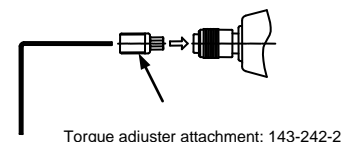

Figure 3
- On UL30 series - 50 series, adjust torque output through the anvil. Use the torque adjuster attachment for torque adjustment on UL30D series - UL50D series (see figure 3).